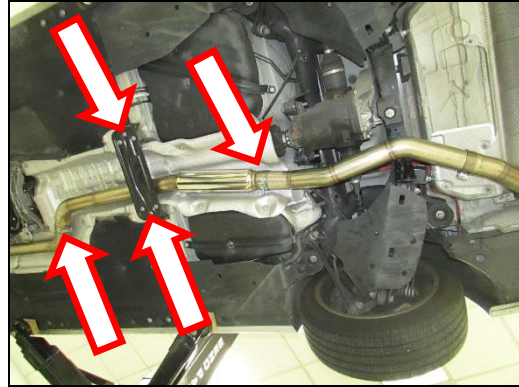

Figure 8
4. Slide on the 3" band clamp and install the resonator pipe. Reinstall the cross brace and tighten (x6) bolts. Slide on the 3" band clamp and install the under axle tube (**Figure 8**).